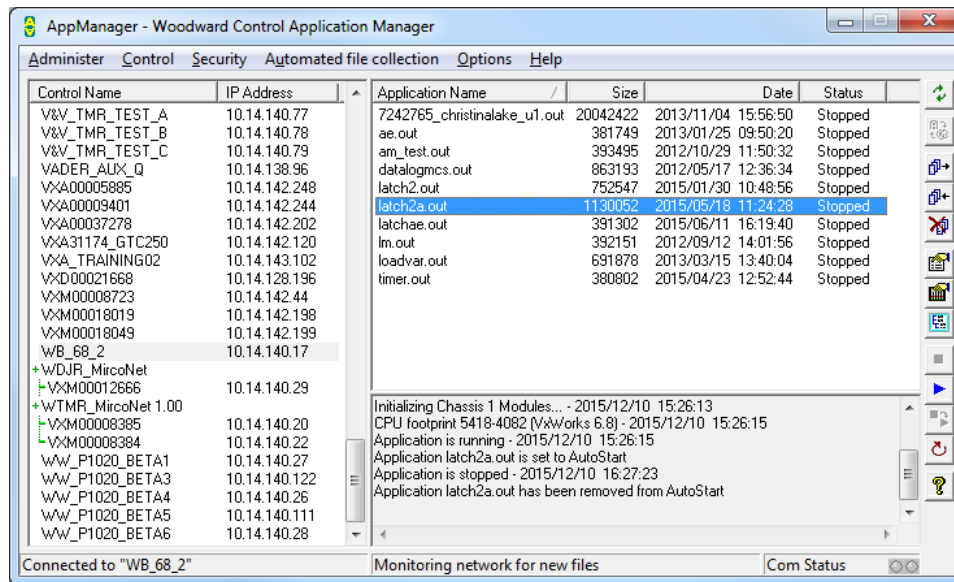

Figure 3-1. Control Application Manager Page
2. Select the application you want to start by selecting a line in the Application List. The selected application is highlighted as displayed in Figure 3-1.